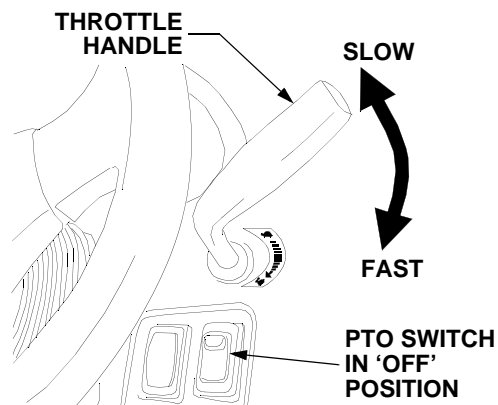

Figure 13
- Move the throttle handle to approximately the "SLOW" throttle position. Refer to Figure 13.